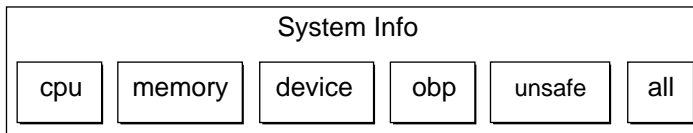

FIGURE 3-6 System Information Buttons
- **Click on any of the System Info buttons during the DR operation (FIGURE 3-6).**